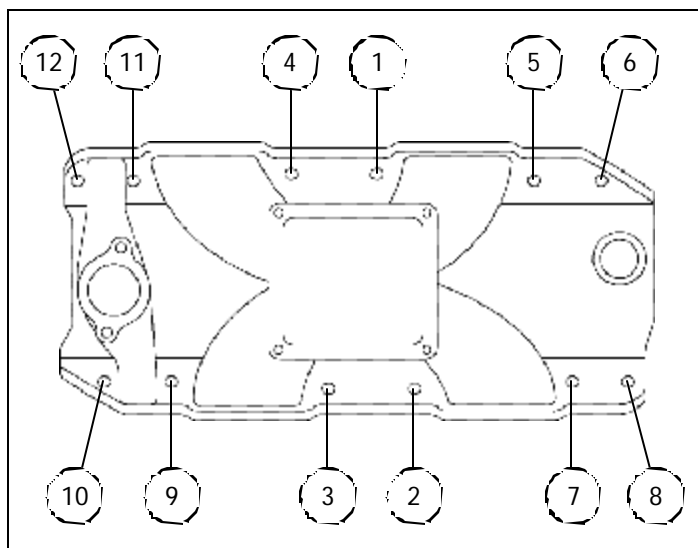

Figure 1 - 396-502 C.I.D. Chevrolet Bolt Torque Sequence
- MANIFOLD TORQUE: Torque the manifold bolts to 25 ft/lbs in small, even steps, following the recommended torque sequence (See Fig. 1). If you cannot fit a torque wrench on some of the bolts, use a small box end wrench to avoid over tightening.